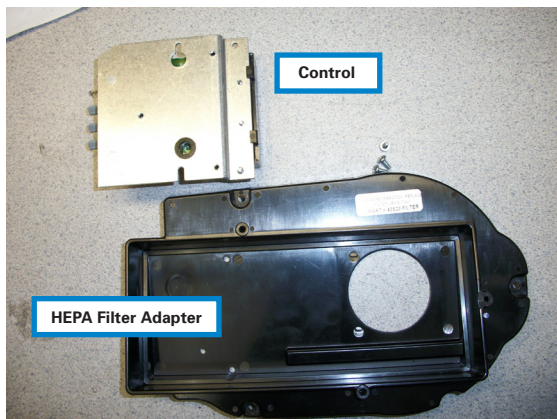

Figure 3-7
Step 3-7. Arrange control (Previously removed in step 3-2) and the HEPA Filter Adapter (A) as shown (**Figure 3-7**)